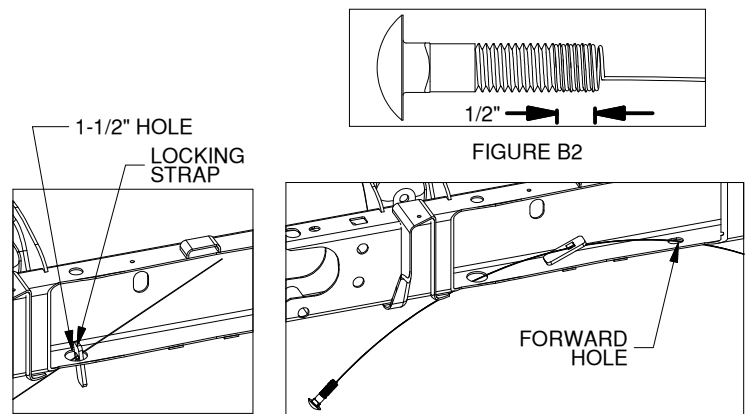

Figure B3 & B4: Cutaway view of driver side frame.
2. **Install frame carriage bolt.** The installation of the frame brackets requires a 1/2" x 2" carriage bolt to be installed inside the frame. First, locate two 1/2" x 2" carriage bolts, two locking straps, and the two fish wires. Locate the 1-1/2" hole in the bottom of the frame; it is located roughly 14 inches from the end of the frame. The hole in which the carriage bolt will be installed is forward of the 1-1/2" hole another 14 inches. Start by attaching a carriage bolt onto a fish wire, as shown in figure B2. Next, position a locking strap into the 1-1/2" hole and thread the fish wire through the square hole in the locking strap and into the frame, see figure B3. Continue to feed the fish wire into the frame until it becomes visible through the forward hole. Retrieve the end of the fish wire through the forward hole. Push the locking strap completely into the frame, see figure B4. Pull the fish wire and pass the carriage bolt into the frame. Pull the end of the fish wire and maneuver the carriage bolt into the square hole in the locking strap. Pull the carriage bolt out through the frame and remove the fish wire. Repeat this process for both sides of the frame.